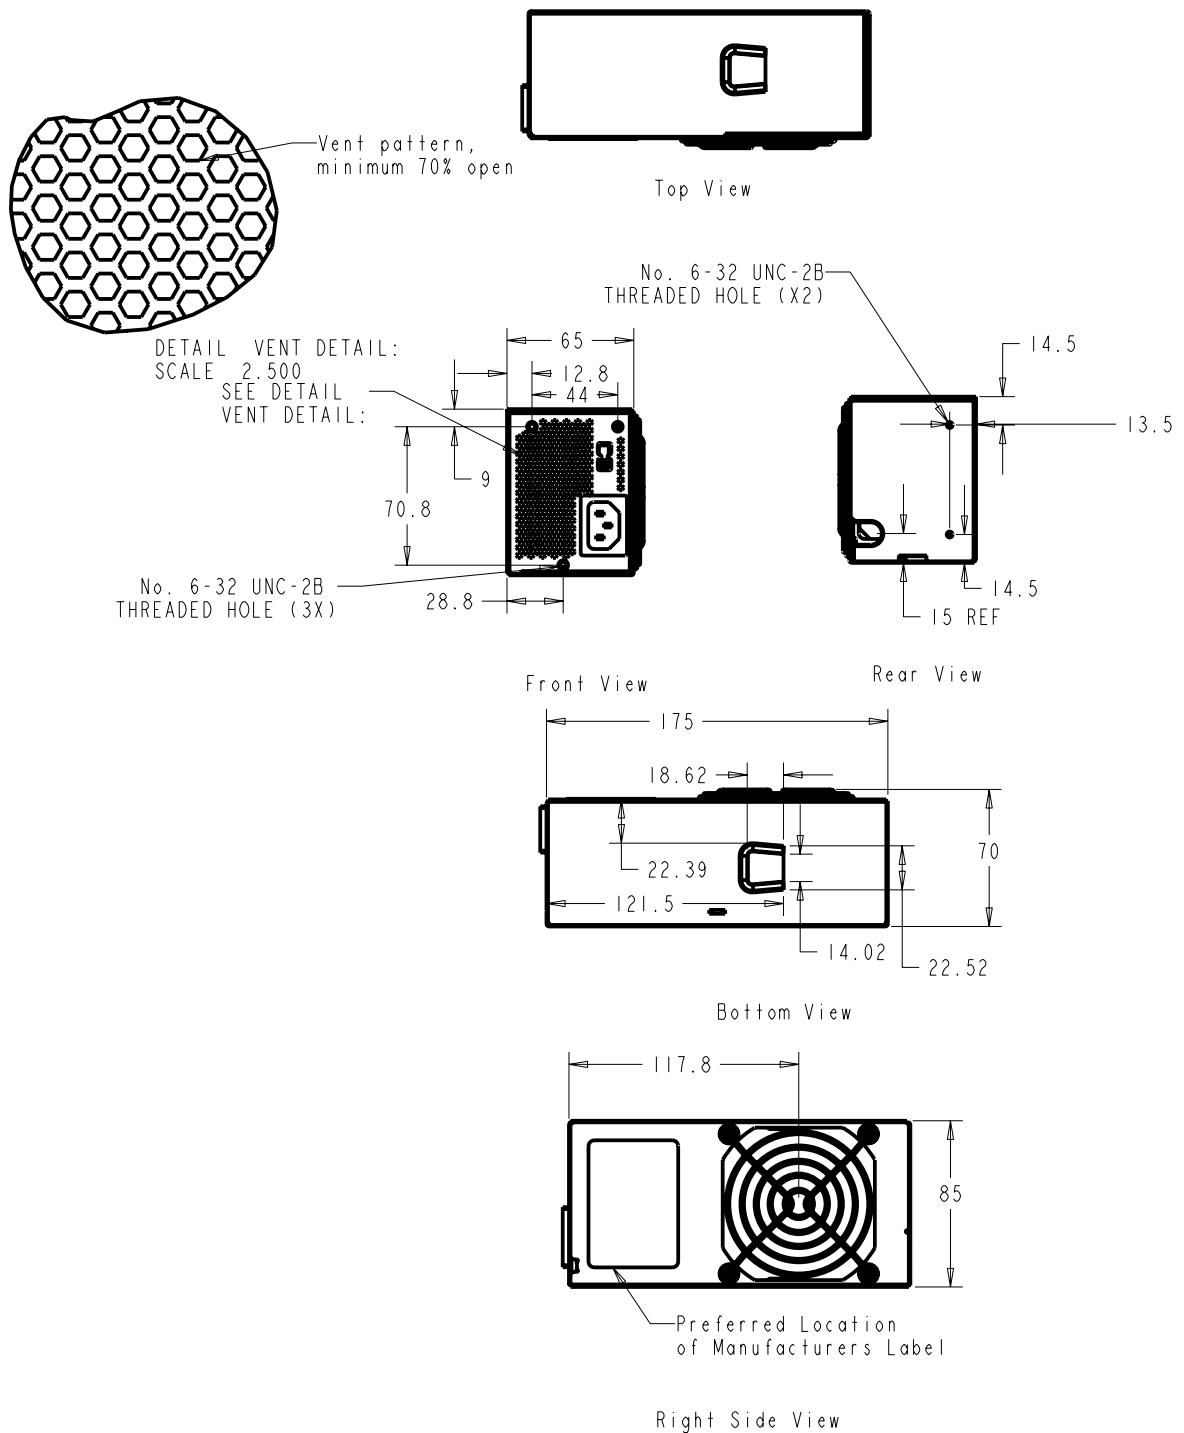
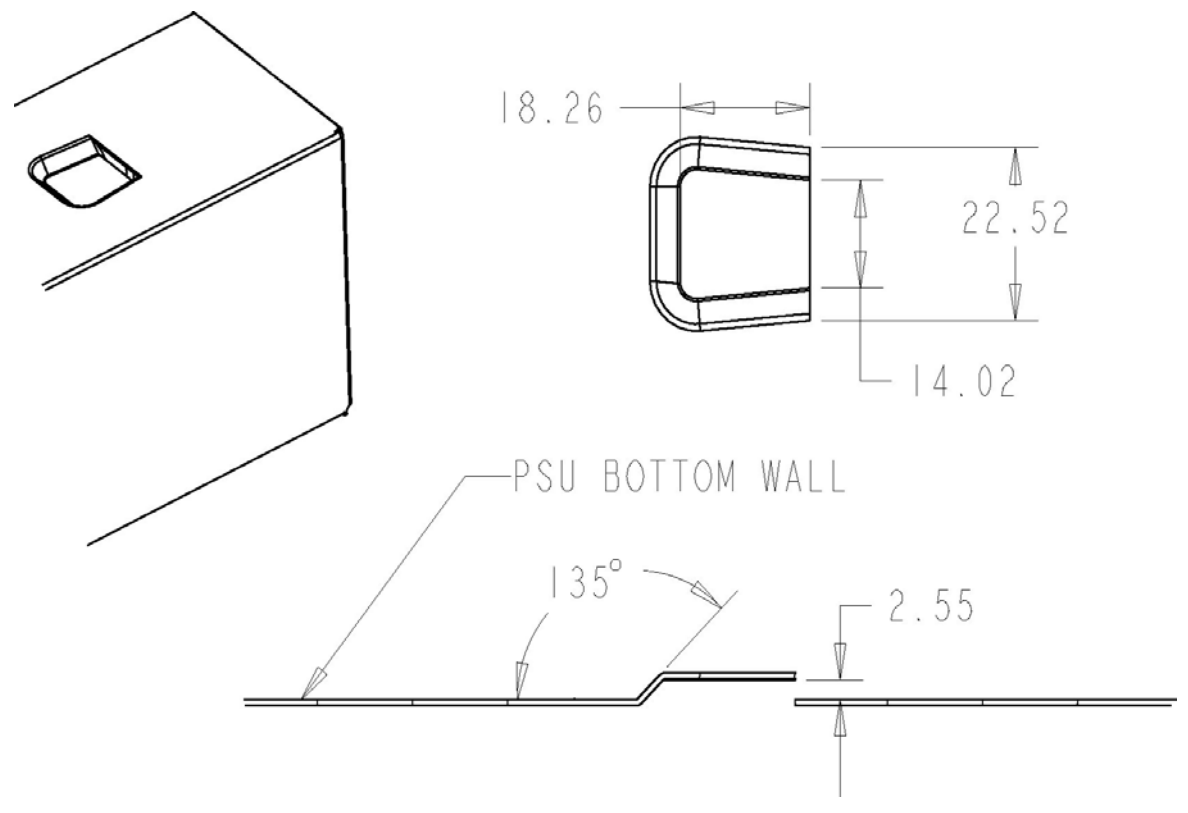
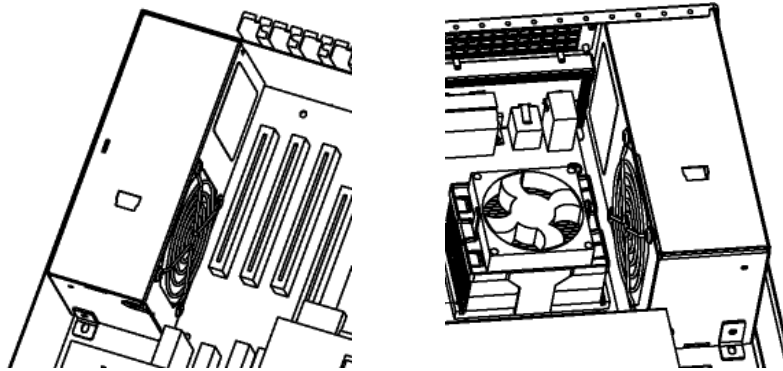

Figure 9. Power Supply Dimensions and Recommended Feature Placements (not to scale)
Figure 10. Power Supply Mounting Slot Detail
Figure 11. Fan Right and Fan Left Orientations of Power Supply in a Chassis
The power supply shall be enclosed and meet the physical outline shown in Figure 9, as applicable.
The TFX12V mechanical design provides two options for mounting in a system chassis. The unit can be mounted using one of the mounting holes on the front end (non-vented end) or a chassis feature can be designed to engage the slot provided in the bottom of the supply. In order to accommodate different system chassis layouts, the TFX12V power supply is also designed to mount in two orientations (fan left and fan right) as shown in Figure 11. A mounting hole and slot should be provided for each orientation as shown in Figure 9. Details of a suggested geometry for the mounting slot are shown in Figure 10.
Fan location/direction: In general, exhausting air from the system chassis enclosure via a power supply fan is the preferred, most common, and most widely applicable system-level airflow solution. The location of the fan can have a large effect on how efficiently this air is exhausted. The location of the fan shown in Figure 9 allows the fan to be located close to the processor cooling solution when used in the common fan left configuration shown in Figure 11. This close proximity of the fan will aid in the evacuation of heated air and helps keep the total system cooler.
Fan size/speed: The TFX12V power supply has an 80 mm axial fan as shown in Figure 9. It is recommended that a thermally sensitive fan speed control circuit be used to balance system-level thermal and acoustic performance. The circuit typically senses the temperature of the secondary heat sink and/or incoming ambient air and adjusts the fan speed as necessary to keep power supply and system component temperatures within specifications. Both the power supply and system designers should be aware of the dependencies of the power supply and system temperatures on the control circuit response curve and fan size and should specify them carefully.
Venting: In general, more venting in a power supply case yields reduced airflow impedance and improved cooling performance. Intake and exhaust vents should be as large, open, and unobstructed as possible so as not to impede airflow or generate excessive acoustic noise. In particular, avoid placing objects within 0.5 inches of the intake or exhaust of the fan itself. A raised wire fan grill is recommended instead of a stamped metal vent for improved airflow and reduced acoustic noise for the intake vent. Figure 9 shows the suggested TFX12V exhaust vent pattern.
- Larger openings yield decreased EMI-shielding performance. The suggested pattern in Figure 9 sufficiently shields EMI in most power supplies, but the design should always be tested as outlined in Section 6.1.